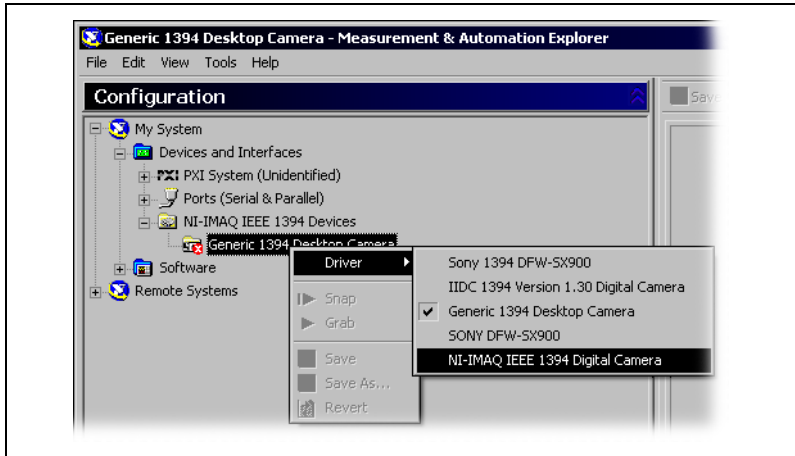

Figure 1. Switching the Camera Driver
- c. If your camera does not show up as a NI-IMAQ IEEE 1394 digital camera, switch the driver by right-clicking the camera and selecting **Driver>NI-IMAQ IEEE 1394 Digital Camera**, as shown in Figure 1.